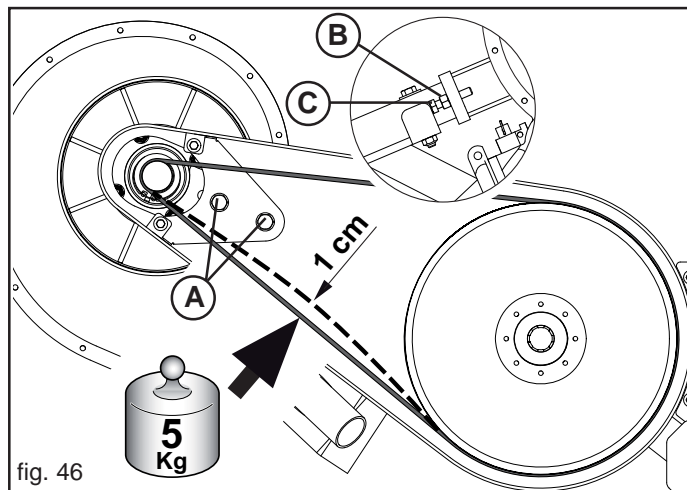

fig. 46
Remove the protective housing. Press on the middle part of the belt between the two pulleys with a 5 Kg force. Each belt should give max. 1 cm (Fig. 46).
- Loosen the screws (A, Fig. 46);
- Loosen the nut (B, Fig. 46);
- With the screw (C, Fig. 46) to regulate the tension of the belt and to block with the nut (B);
- Tighten the bolts (A) loosened before and close the casing.